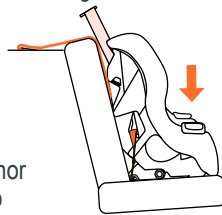

Fig. 35b
5. Put weight in seat with hand to compress the vehicle seat cushion then insert the lower anchor connector on to the vehicle connector anchor point. Tighten the UAS lower anchor connector by pulling up on the webbing end. Pull up on the UAS lower connector to ensure the UAS lower connector is securely fastened (Fig. 35b).